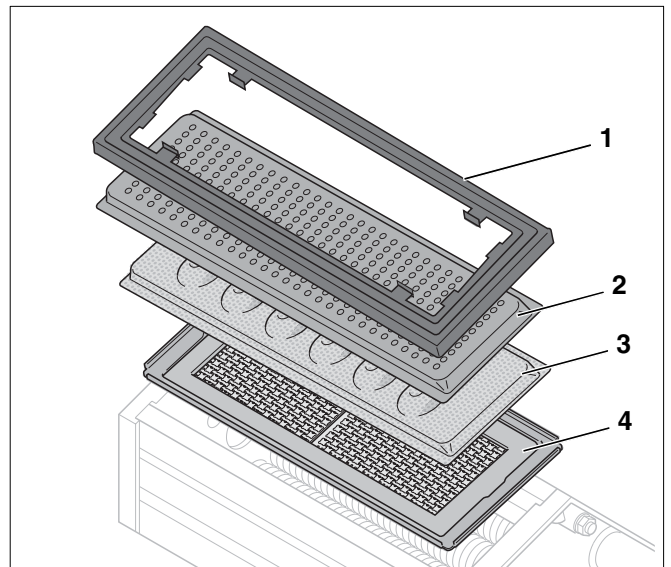

Fig. 109 Removing the burner
- Remove the burner gasket (see fig. 109, pos. 1).
- Remove the gas/air distributor plate (see fig. 109, pos. 2).
- Remove the orifice plate (only applies to GB142-24/30) (see fig. 109, pos. 3).
- Remove the burner (see fig. 109, pos. 4).